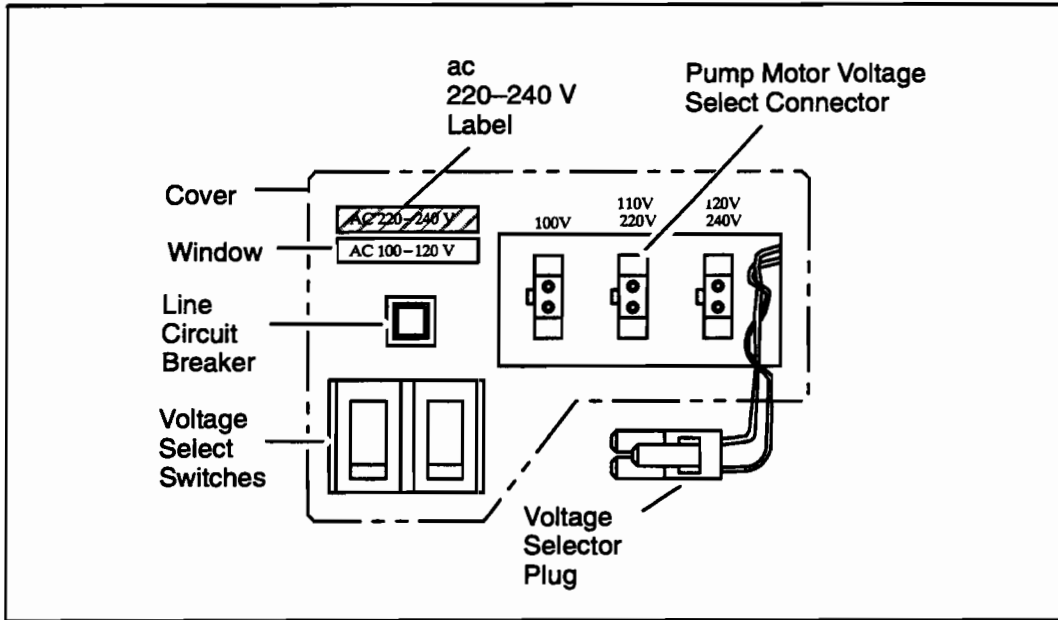

Figure 3-18. Voltage Selection Assembly
5. Ensure that the voltage selector plug is plugged into the correct connector on the voltage selection assembly. The correct connector for each possible power source is described in the next three steps of this procedure. See Figure 3-18 while adjusting the position of the voltage selector plug.
10. Verify the position of the cover over the voltage select switches on the Main Power Panel. For 100 to 120 Vac, the cover must be fastened so that the label, AC 100–120 V, shows in the window. For 220 to 240 Vac, the cover must be fastened so that the label, AC 220–240 V, shows in the window. See Figure 3-18.